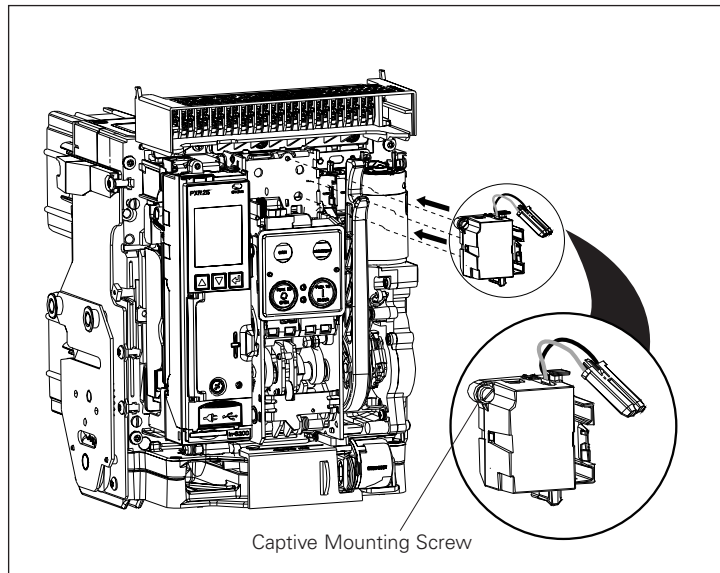

Figure 6. Step 4.
Step 4: Position the spring release as shown to begin the installation process (Figure 6).